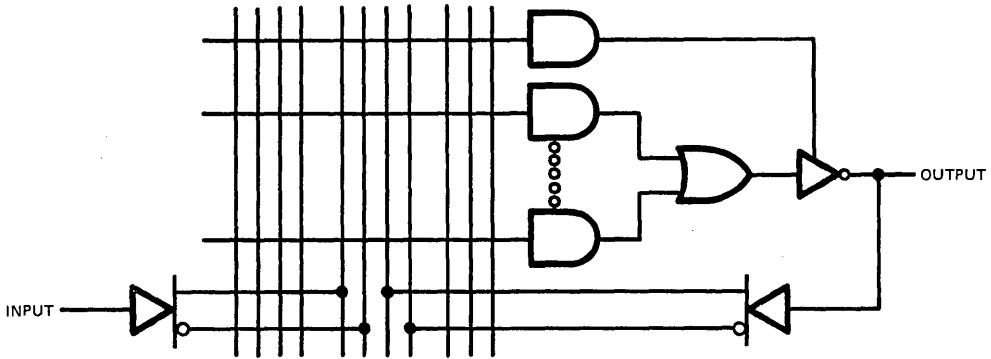

FIGURE 12
- **PROGRAMMABLE I/O** - The combinational output of the FOA incorporates 3-state drivers if the enable function is logically controlled by the AND array (see Figure 12). This allows the output to be programmed as an input, an output, or logic-controlled I/O.